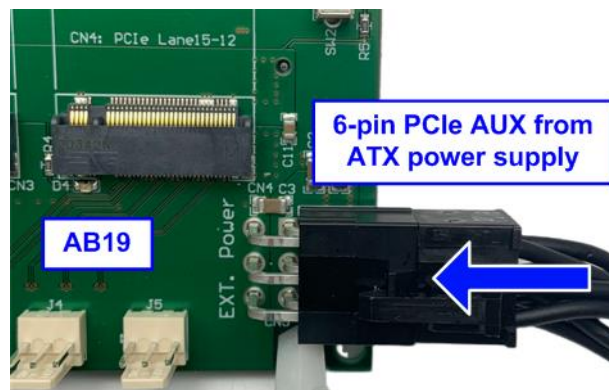

Figure 12 Connect 6-Pin PCIe Power Supply to AB19
- iii) Connect the 6-Pin PCIe AUX from the ATX power supply to AB19 board as shown in Figure 12.